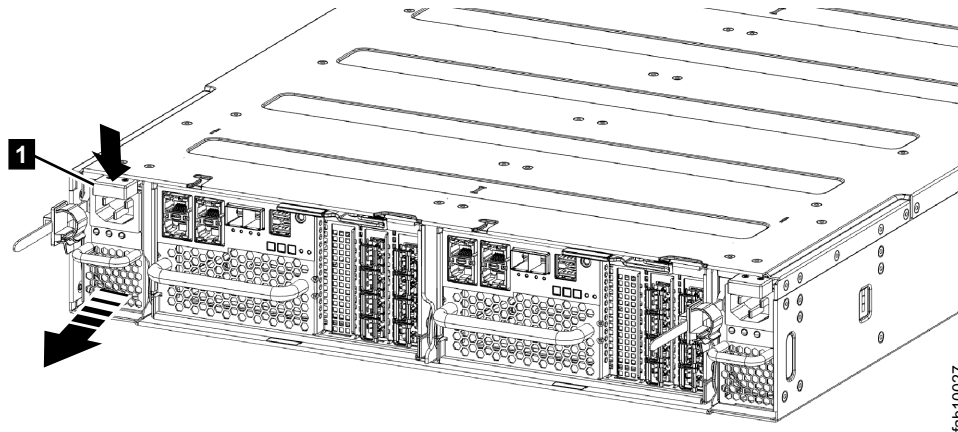

Figure 84. Removing the power supply unit (left side of enclosure)
5. Using the handle, firmly pull the power supply out of the enclosure shown in Figure 84 on page 303.